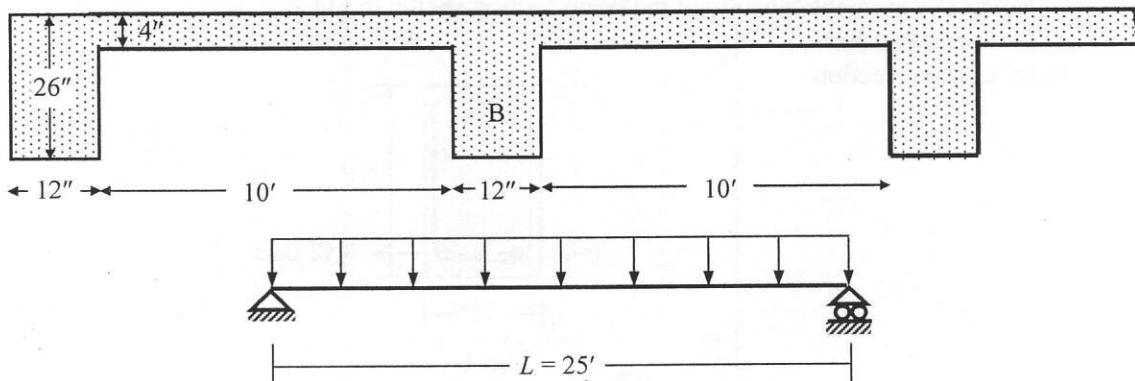

Fig. 5
- A floor slab 4 inch thick is supported by reinforced concrete beams, 11' c/c, which together with slab acts as T-beams (see Fig.5). The slab supports a service live load of 150 psf and a superimposed dead load of 50 psf. The supporting beams have span of 25' (simply supported). Design the beam 'B' (with sketch) using WSD method.